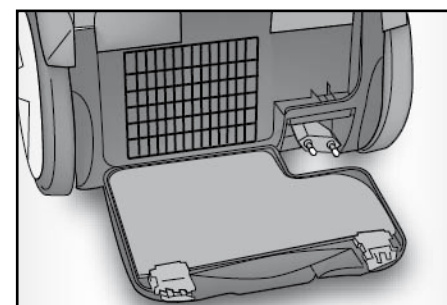

Fig. 11
- Remove the filter and clean it under running water (Fig. 11). Leave it to dry thoroughly.